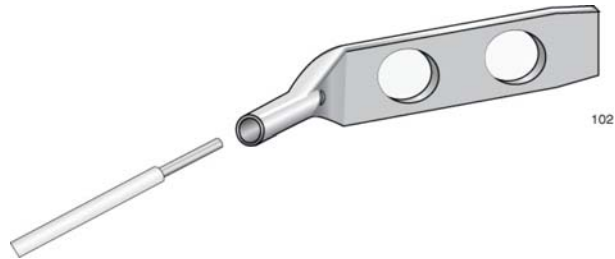

Figure 36. Attaching the Grounding Wire to the Grounding Lug
3. Insert one end of the grounding wire into the grounding lug, as shown in Figure 36, and use a crimping tool to secure the wire to the grounding lug.